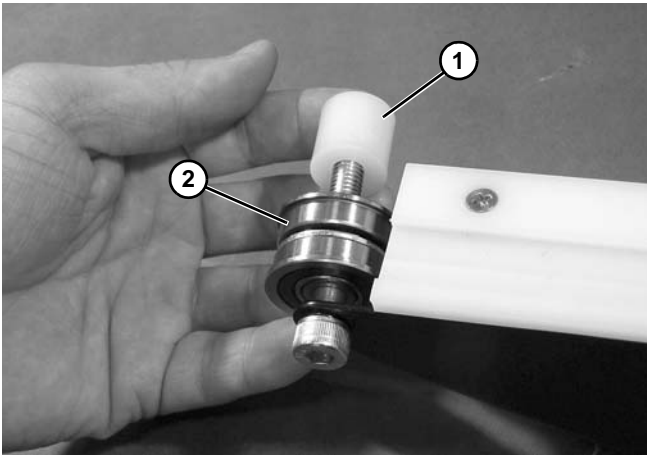

Figure 162
- Slide off spacer (Figure 162, item 1) and bearing (Figure 162, item 2).